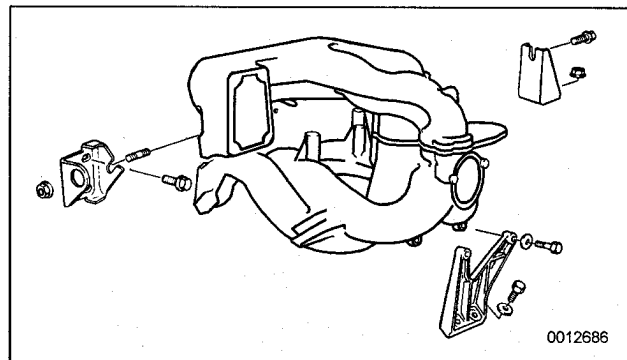

Fig. 6. Intake manifold support brackets and mounting hardware. Manifold for M44 engine shown.
- Remove Y-shaped support bracket from underside of manifold. (See Fig. 6.)
- Remove manifold support brackets. See Fig. 6.